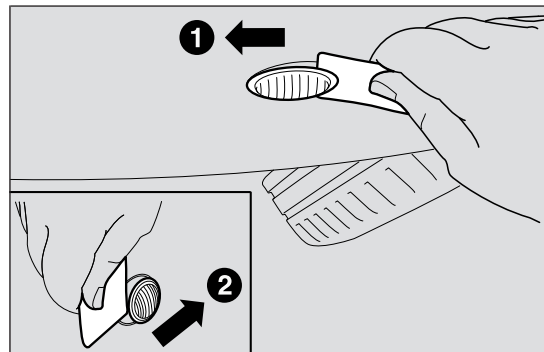

fig. 112
- ☐ lever the lens off, by initially applying force from the front towards the back (1 - fig. 112);
- ☐ then lever in the opposite direction, by applying force from the back part (2 - fig. 112) and remove unit B;